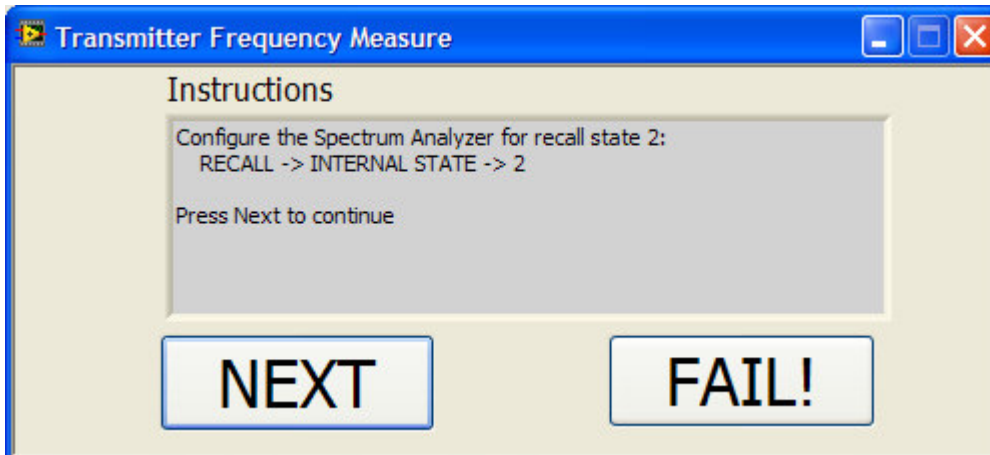
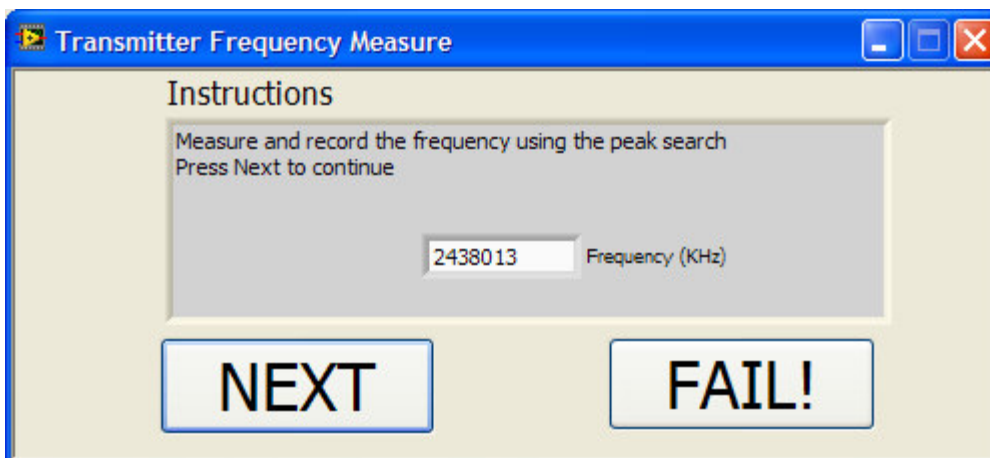

Figure 5-7 Screenshot of dialog instructing user to prepare spectrum analyzer for frequency measurement.
Figure 5-8 Screenshot of dialog with measured frequency input.
- f) After the board passes the PET tests the DUT transmitter frequency is measured for accuracy. The radio specification requires that the crystal clock accuracy be within 20ppm. This can be measured by measuring the transmission frequency. The Dialog in Figure 5-7 directs the user to switch the spectrum analyzer to state 2. Next, the user presses the Next button to continue. The user is directed to record the frequency measured from the spectrum analyzer in the input box as shown in Figure 5-8. The input is to be entered in KHz units and does not need any decimal points. For example if the measured frequency is 2.438013 Ghz then